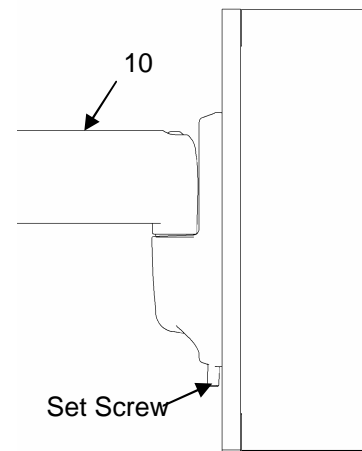

Figure 15. Tighten Set Screw
2. Using 5/32" hex wrench (160), secure mount to wall bracket by tightening set screw (see Figure 15). Ensure set screw engages back side of bracket to properly secure mount.